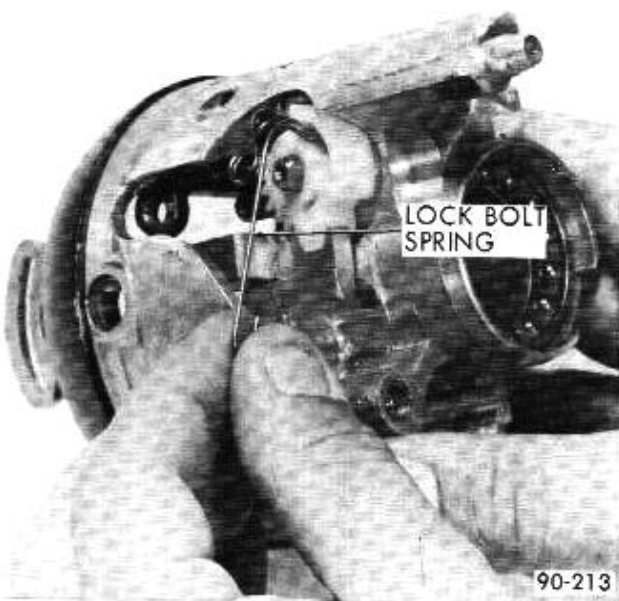

Figure 90-120 - Removing Lock Bolt Spring
2. Remove lock bolt spring by removing spring retaining screw and moving spring clockwise to remove from bolt. See Figure 90-120.
7. Install bolt spring and spring retaining screw. Torque to 35 pound inch. See Figure 90-120.